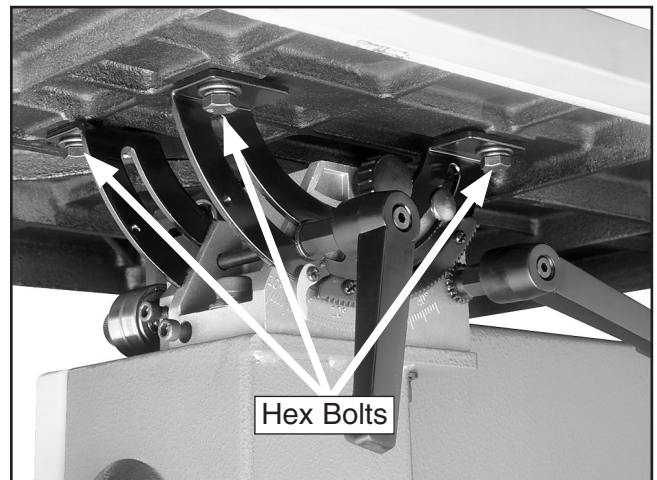

Figure 2. Trunnion mounting hex bolts.
3. Remove the four hex bolts, flat washers, and lock washers securing the table to the trunnion (**Figure 2**).